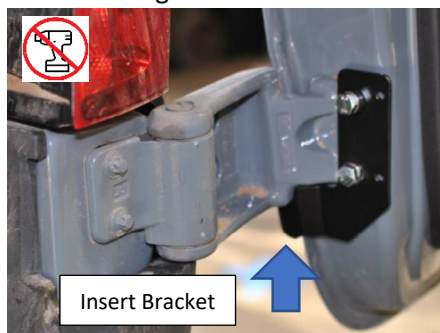

Figure 3: Lower Bracket Installed
13. Install the lower hinge bracket following the same procedure detailed in Step 12 and by installing over the hinge from the bottom up. Reference Figure 3.